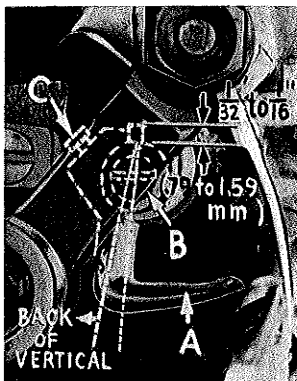

Fig. 9
Insert upper looper (A, Fig. 9) or upper spreader in its holder. Screw (B) holds the upper looper or spreader in its holder, and permits the upper looper or spreader to be pushed in or out, or turned around its shank. Insert upper looper or spreader holder into shaft, if not already in place. Screw (C) in clamp collar holds upper looper or spreader holder in the shaft, and allows holder to be rotated or adjusted laterally.
When the upper looper or spreader is at the right end of its stroke, the upper looper or spreader holder should be set to position the upper looper or spreader shank slightly back of vertical (Fig. 9). Top end of the upper looper or spreader shank should extend $1/32$ to $1/16$ inch (.79 to 1.59 mm) above the upper looper or spreader holder (Fig. 9) on Styles 39500 QG, SD and TC. This dimension should be $1/16$ to $3/32$ inch (1.59 to 2.38 mm) on Style 39500 RN.